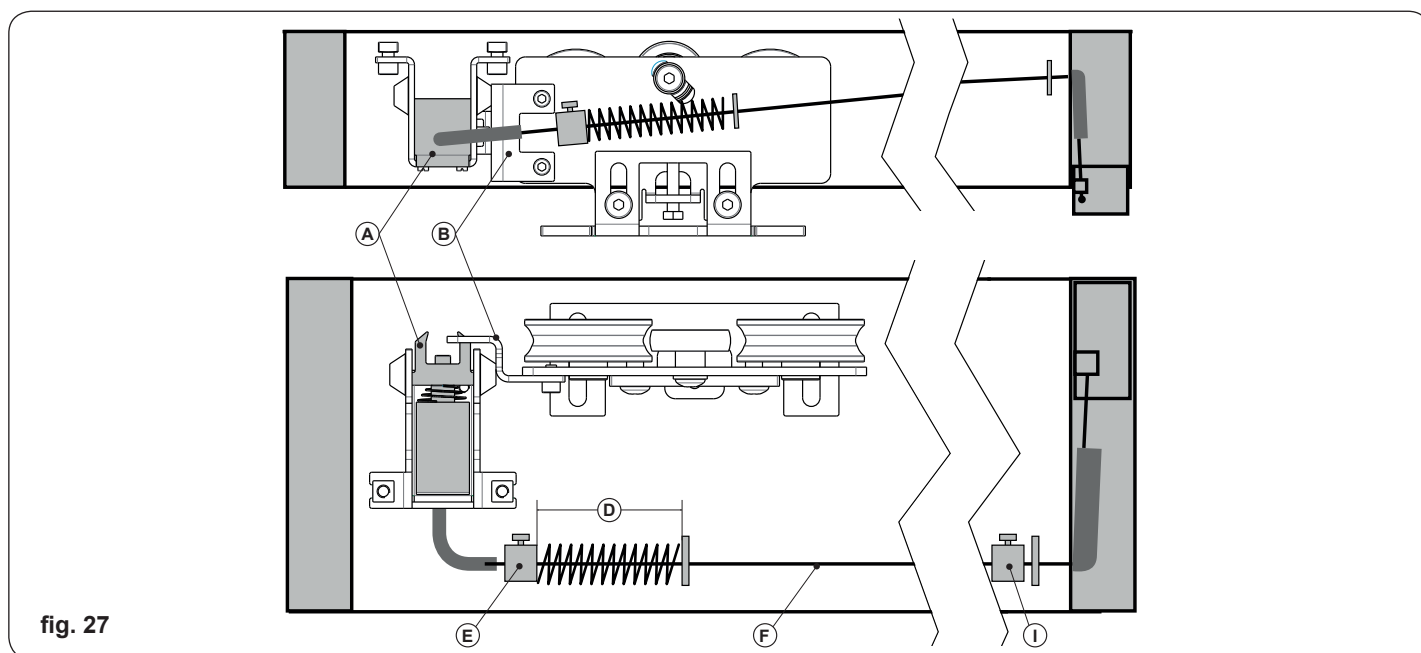

fig. 27
- 1) Place the leaves of the door in the closing position and make sure that the locking bracket **B** touches the rubber buffets of the electro-locking device **A** (figure 27).